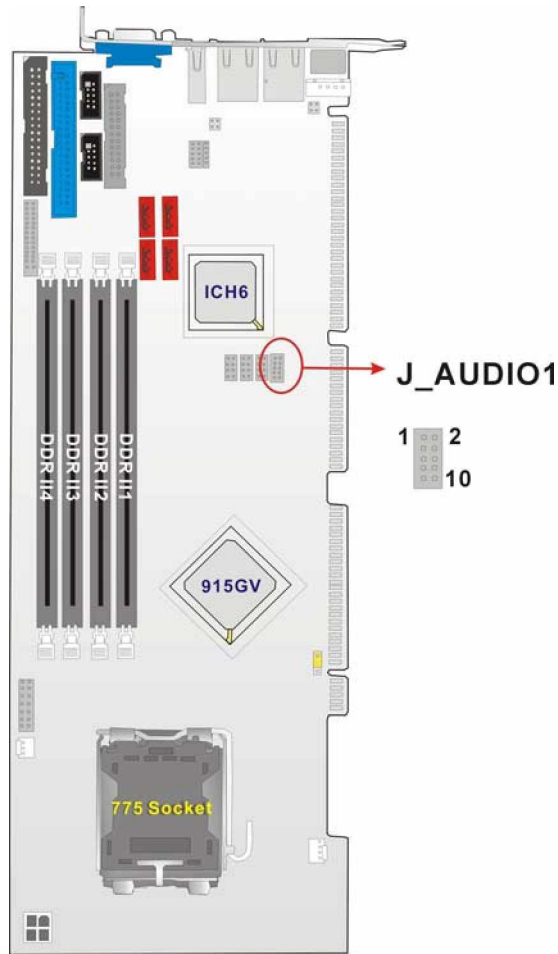

Figure 3-15: J\_AUDIO Connector Location
- CN Location:** See Figure 3-15